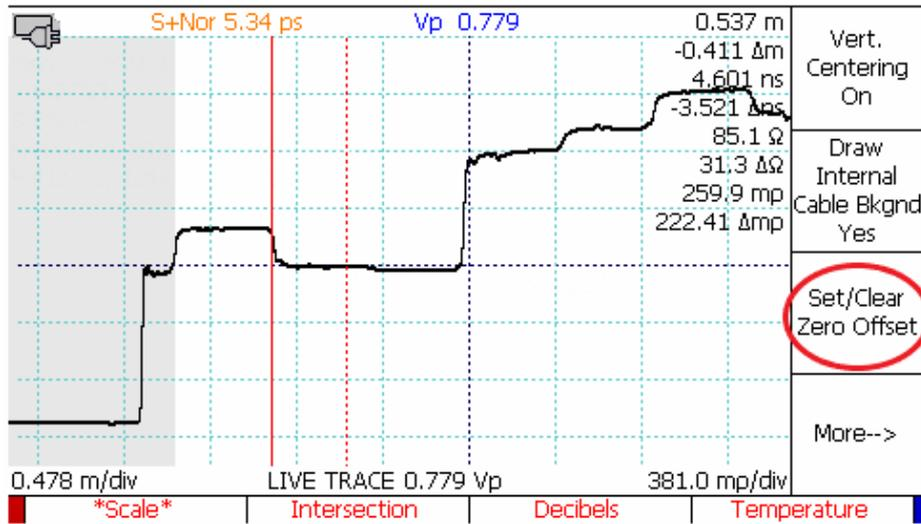

Figure 4.13. The Set/Clear Zero Offset button on the Display menu.
2. Press the *MENU* button, and go to *Settings* → *Display* → *Set/Clear Zero Offset* (Figure 4.13).